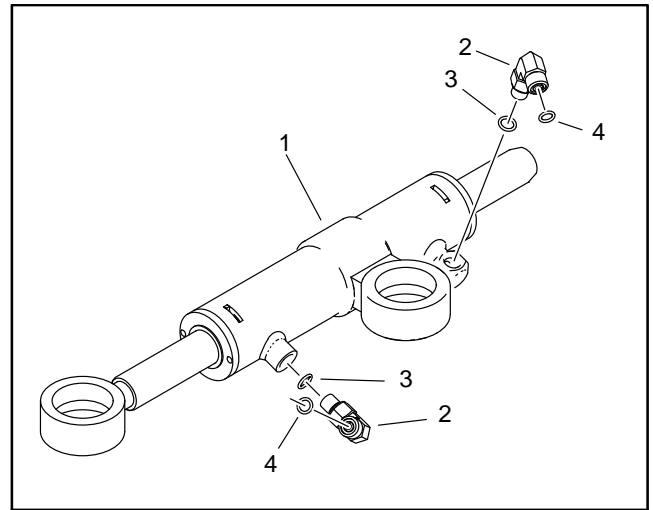

Figure 31
5. If hydraulic fittings are to be removed from steering cylinder, mark fitting orientation to allow correct assembly. Remove fittings from cylinder and discard O-rings (Fig. 31).
5. Connect hydraulic hoses to steering cylinder (Fig. 31). Tighten hose connections (see Hydraulic Hose and Tube Installation in this chapter).